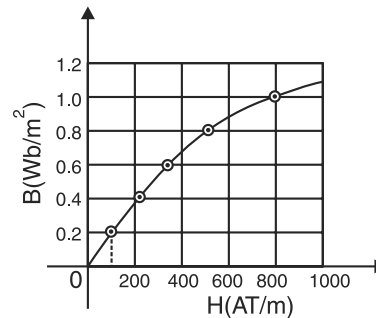

Fig. 8.31
**Solution.** Plot the  $B$ - $H$  curve from the given data as shown in Fig. 8.31.